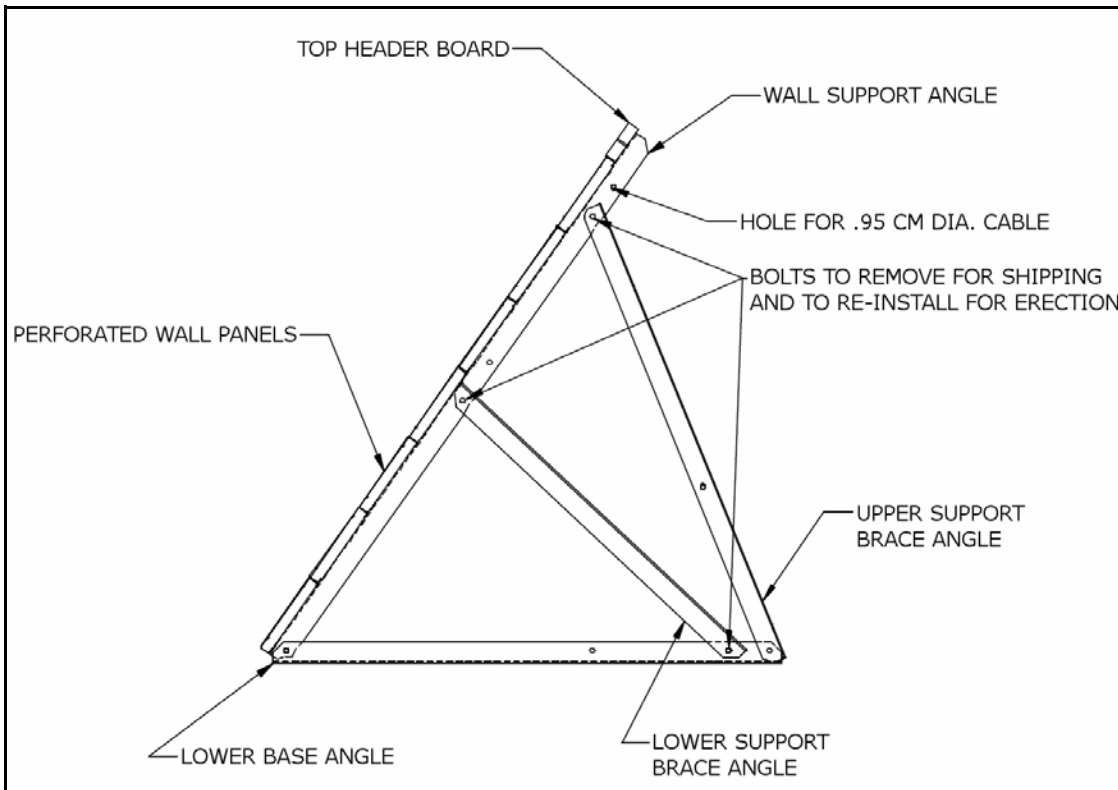

Figure 3.4 Fully Assembled Containment Panel
4. Remove the two 1.6 cm x 3.8 cm large bolts connecting each lower support brace angle to the upper support brace angle. Using the 1.6 cm x 3.8 cm bolts, connect the lower support brace angles to the wall support angles and lower base angles in the holes as shown in Figure 3.4.
4. Thread the .95 cm cable through the upper holes of the wall support angles as shown in Figure 3.4. Tension the cable as required using the cable clamps and turnbuckles. Panels may be removed for filling and emptying by securely attaching the cable to the wall panels on either side of the opening, and tensioning as outlined above.
Note: *The 2.74 m Temp-Stor Containment Wall Systems require two cables, one at the top of the wall panels and one at the midpoint of the wall panels. See Figure 3.4.*